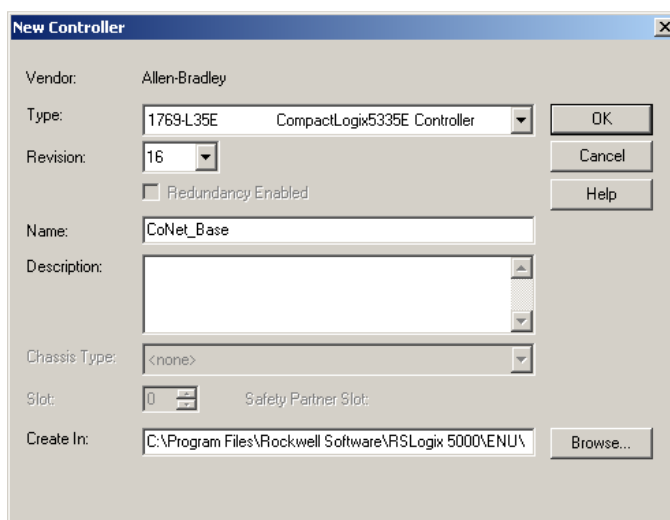

Fig. 4: The *New Controller* dialog window
2) Create a new project by select the **New Project** item (or the **File\New** menu item). The *New Controller* dialog window is displayed (see Fig. 4). The following parameters must be set: